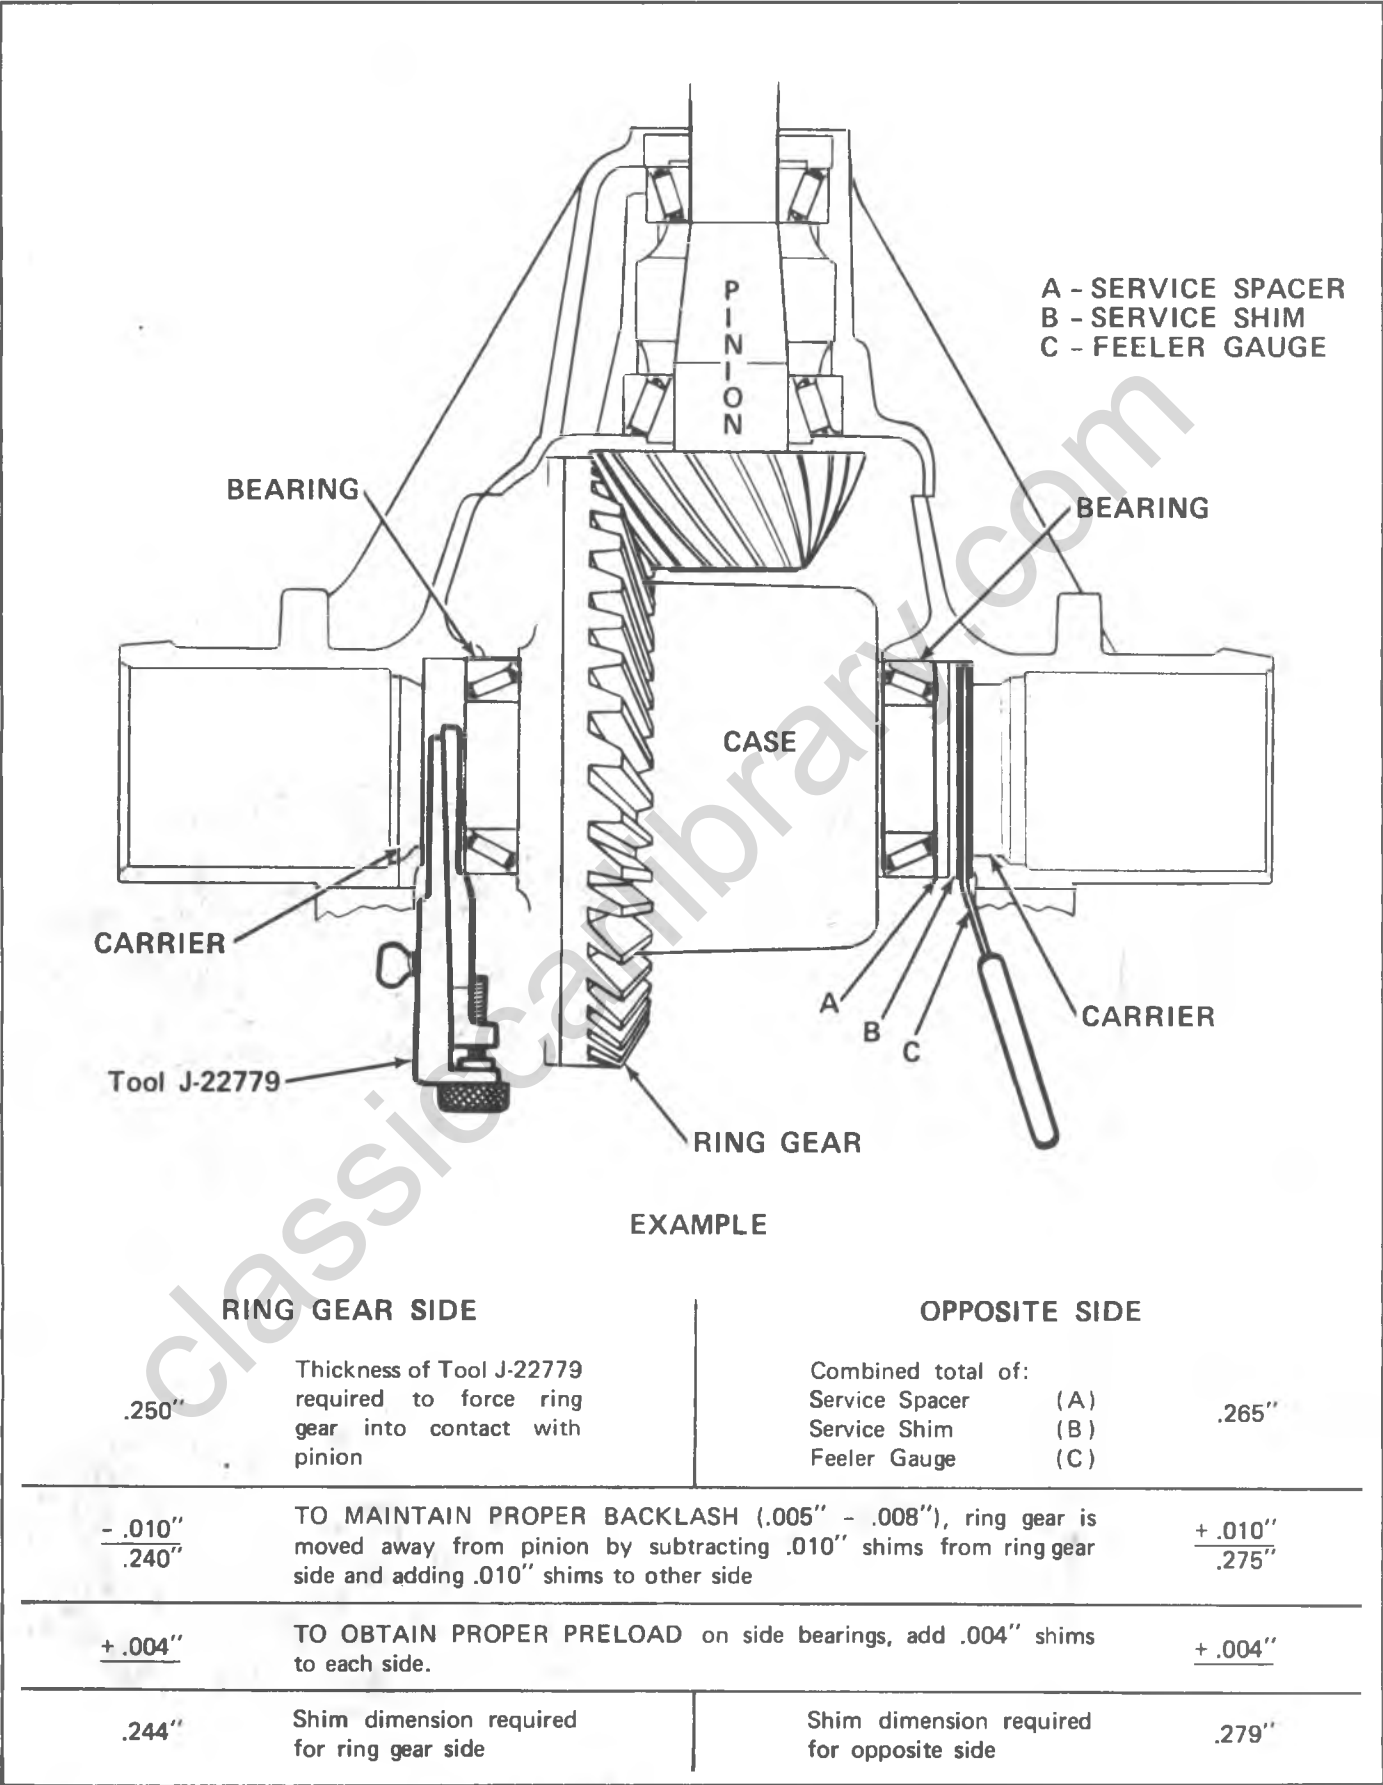

Fig. 7B--Determining Side Bearing Shim Requirements
8. Now measure the above dimensions as shown in figure 7B.
9. Use the sample procedure in figure 7B to determine the proper thickness for each shim pack.